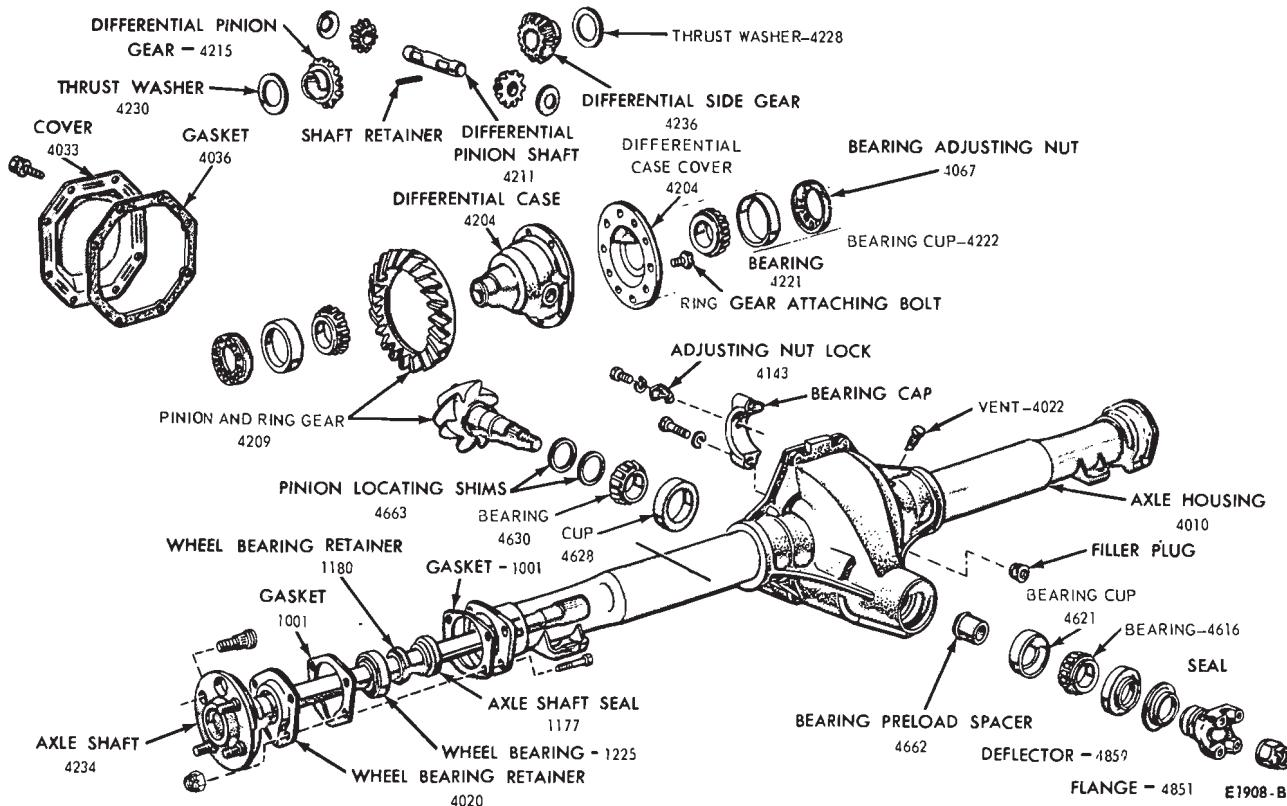

FIG. 16—Disassembled Rear Axle
9. Remove the differential bearing adjusting nut locks (Fig. 16).